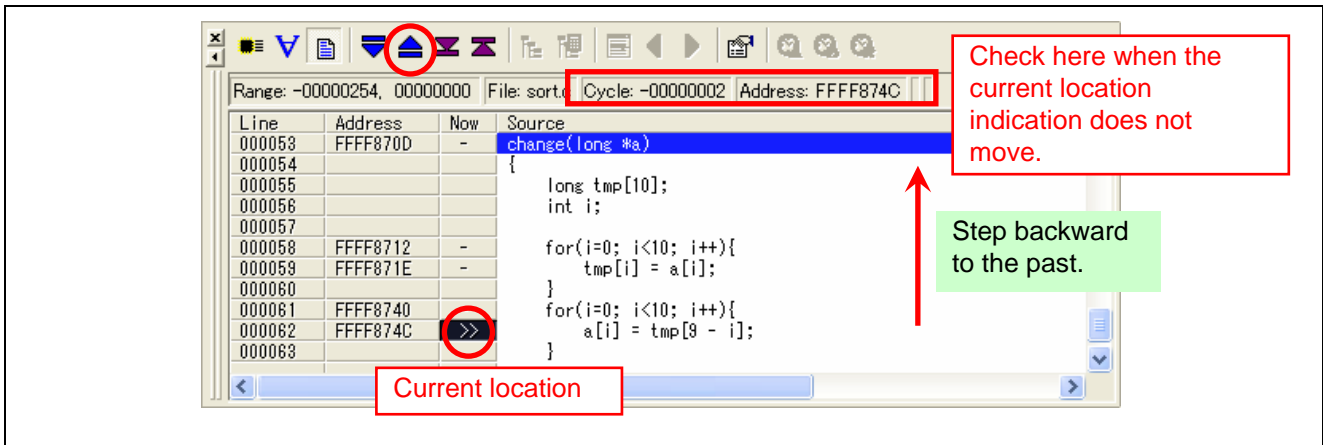
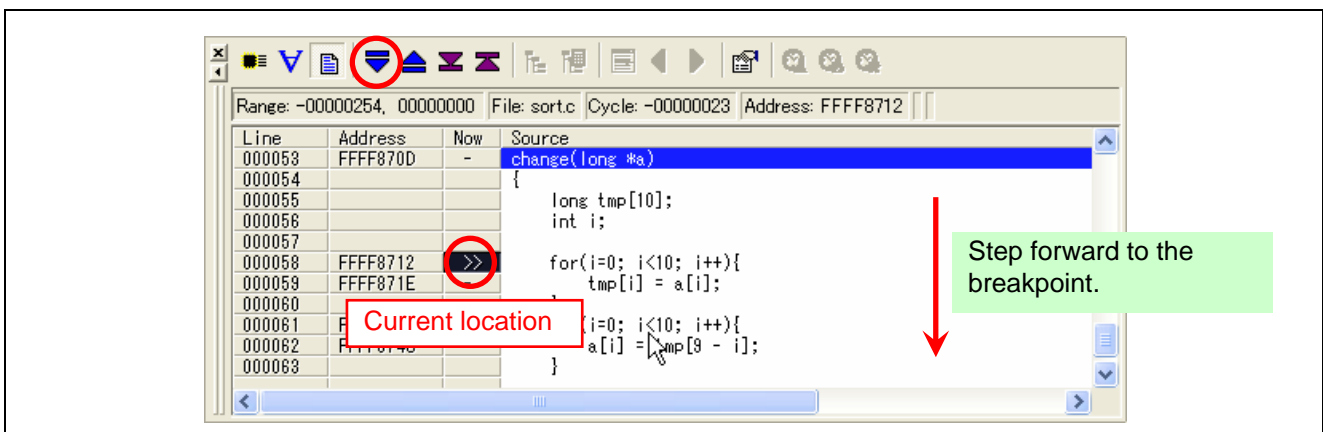

Figure 4.66 Step Backward
Figure 4.67 Step Forward
- (8) In the source display mode, you can use the [Step Backward] button, which analyzes the trace information and tracks the program execution history in reverse as shown in Figure 4.66, and the [Step Forward] button, which tracks forward as shown in Figure 4.67.